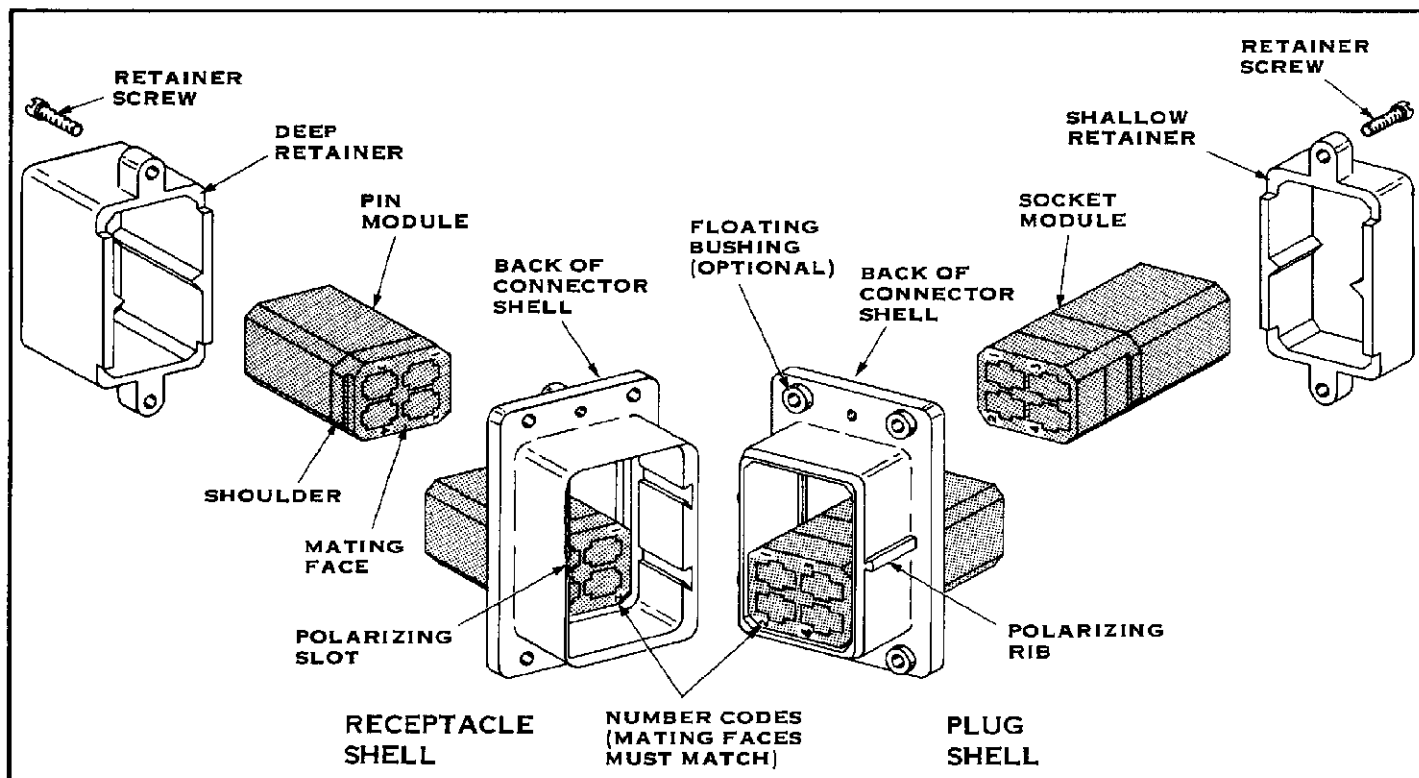

FIGURE 7
2. Insert the Mating Face of the Module(s) into the BACK of the Connector Shell(s) as indicated in Figure 7. Make sure the Mating Faces match.
WARNING These connectors are designed for High Voltage applications. If improperly mated, a serious or fatal shock could result. The only way to ensure proper mating is to make certain the NUMBER CODES on the Mating Faces of the Modules match each other. See Figure 7.